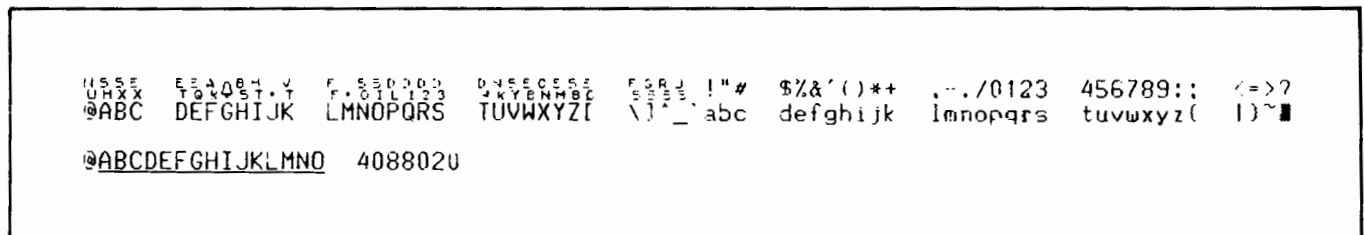

Figure 6-1 2621B Test Pattern
2. If the test pattern is good, a self-test pattern and primary terminal status is displayed on the screen (figure 6-1 or 6-2). Refer to the STRAPPING section for terminal status interpretation.